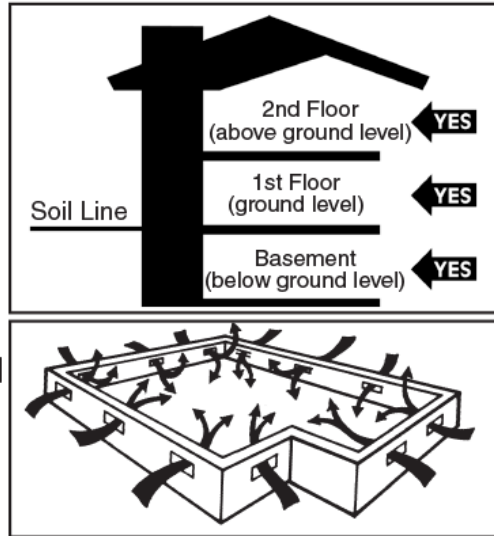

Figure 1
- Crawl spaces must be a minimum of 18" (46 cm) from the ground to the underside of the joists. A ground cover of 6-20 mil black polyethylene film is essential as a vapor barrier with joints lapped 6" (15 cm) and sealed with moisture resistant tape. The crawl space should have perimeter venting equal to a minimum of 1.5% of the crawl space square footage. These vents should be properly located to foster cross ventilation (**Figure 1**).